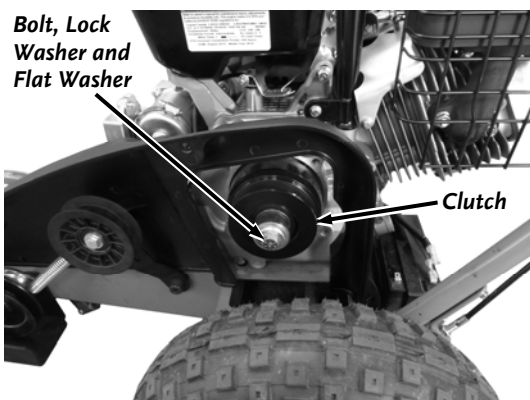

Figure 43
2. Place a 1/2" Wrench (Premier) or 5/8" Wrench (Pro and Pro-XL) onto the Clutch Bolt and rotate the Wrench counterclockwise until you feel some resistance (**Figure 43**).